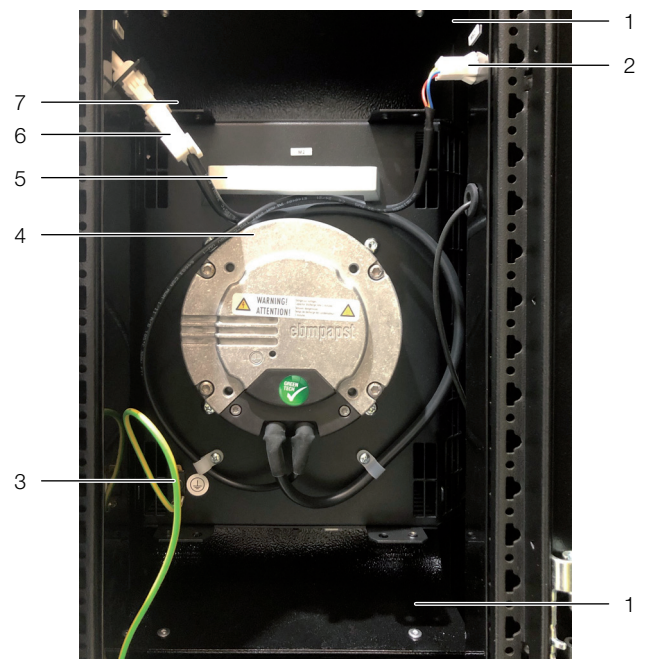

Fig. 42: Fan module in fan tray
- Release the two DC and AC fan connectors on the left and right (fig. 42, items 2 and 6).
- Disconnect the PE conductor connection on the fan (fig. 42, item 3).
- Loosen the two knurled screws, right and left (fig. 42, item 7), at the top and bottom of the fan air baffle plates.